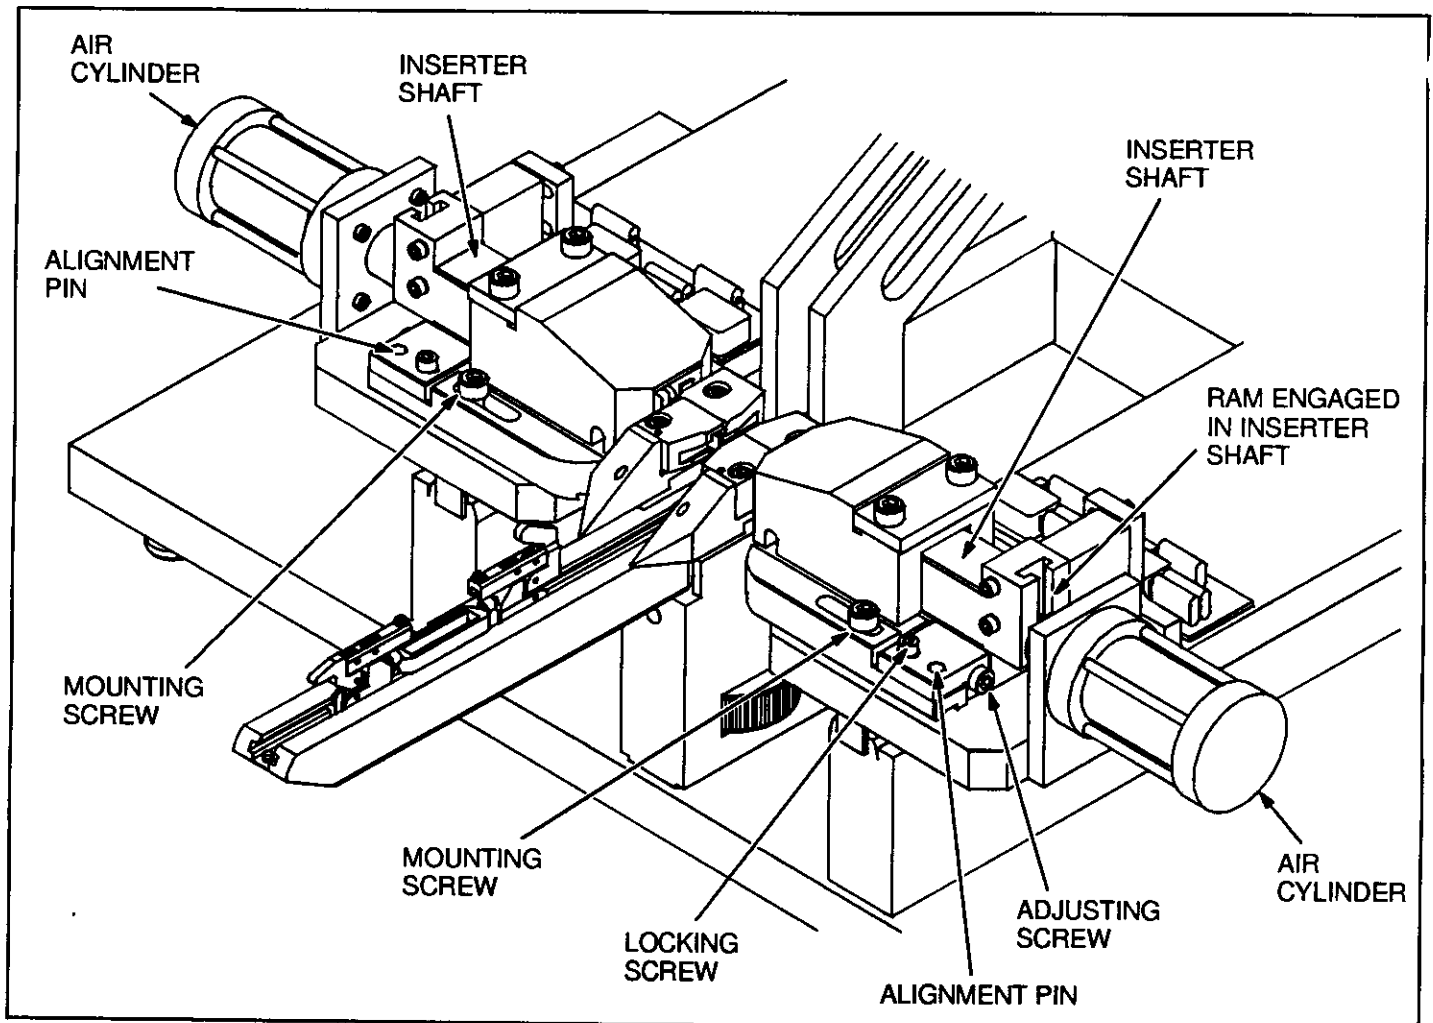

Fig. 3
2. Position each inserter so that the ram on the air cylinder engages the inserter shaft, as shown in Figure 3.
inserter. To adjust the clearance, refer to Figure 3 and proceed as follows: